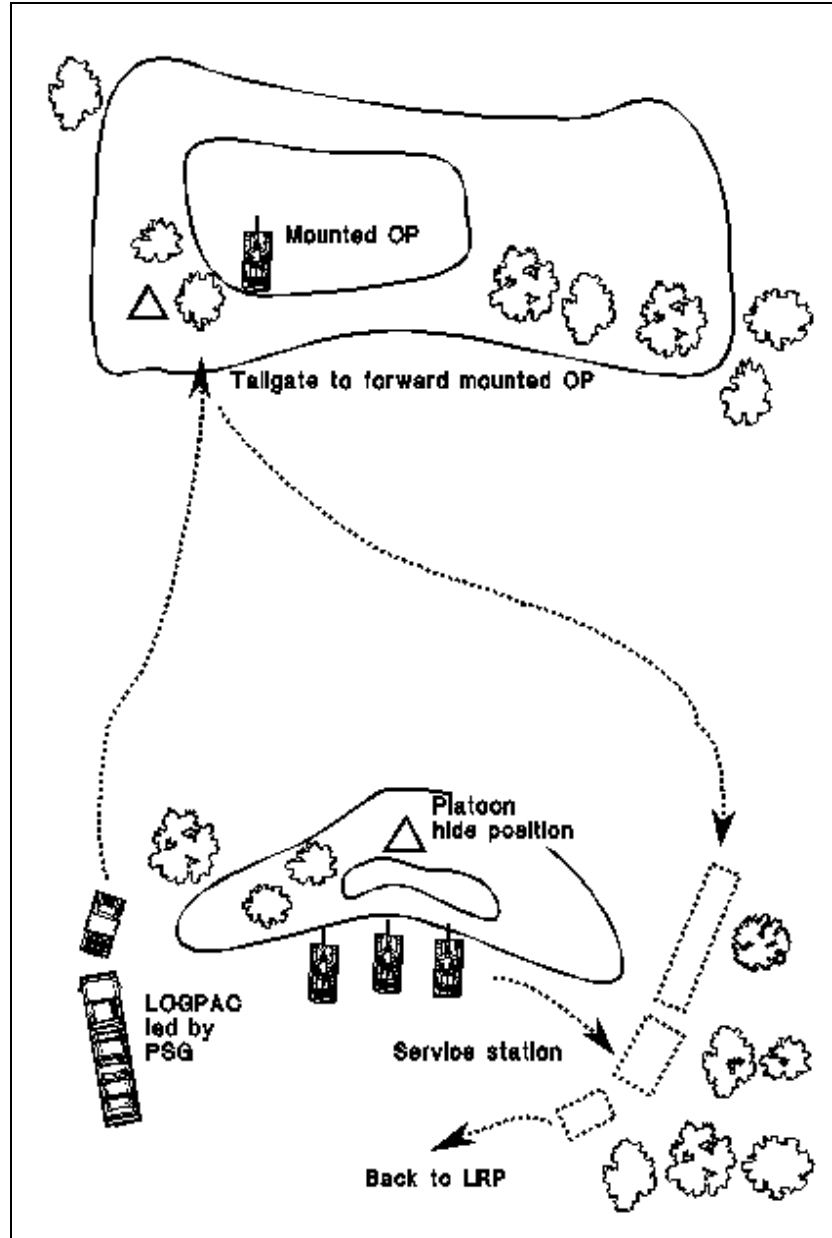

Figure 5-3. Combination of resupply techniques.
- *Combination Resupply.* A platoon leader can vary the specifics of the two basic techniques, or he can use them in combination. During a defensive mission, for example, he may use the tailgate technique for a mounted forward OP and the service station method for the remainder of the platoon located in hide positions (see Figure 5-3).